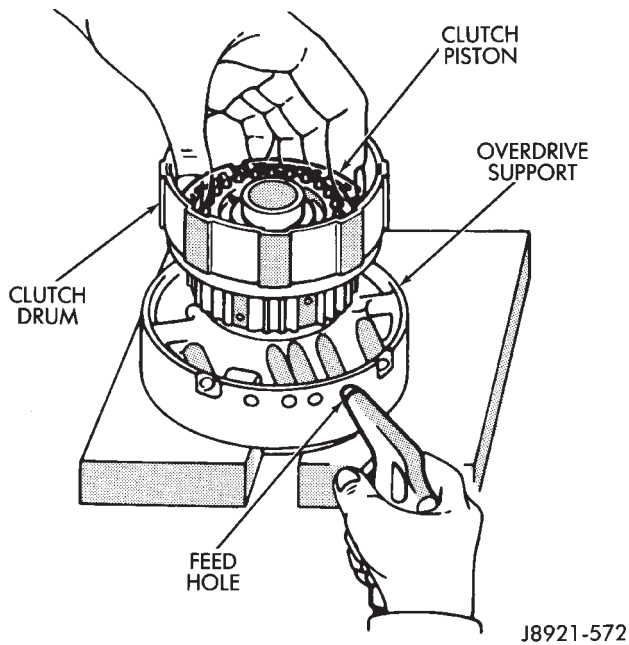

Fig. 6 Removing Forward Clutch Piston
(10) Compress clutch springs with Tool 7538 and remove piston snap ring.
(11) Remove spring compressor tool and piston return springs.
(12) Remount forward clutch drum on overdrive support (Fig. 6).
(13) Apply compressed air through feed hole in support to remove piston (Fig. 6). Use only enough air pressure to ease piston out of drum.